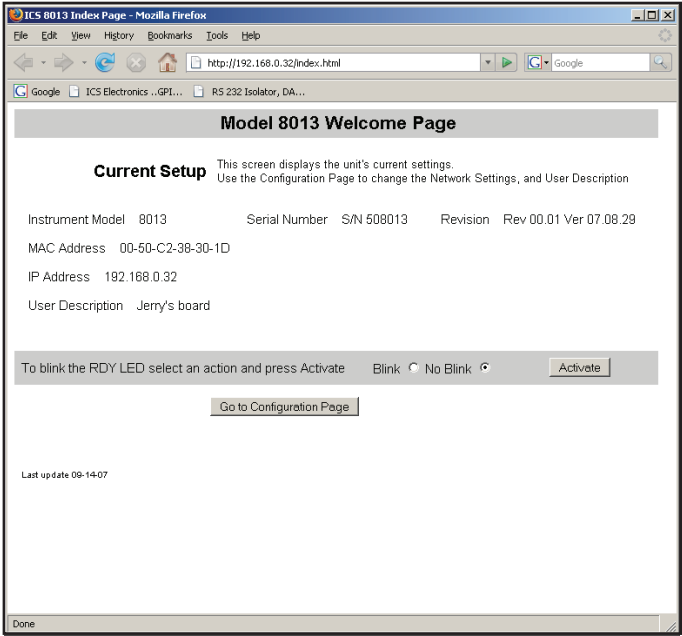

Figure 2-3 8013 Welcome Page
4. Open the browser and enter the default IP address of 192.168.0.254 or your last set IP address in the browser address window. A Welcome Page similar to the one shown Figure 2-3 should appear in your browser.